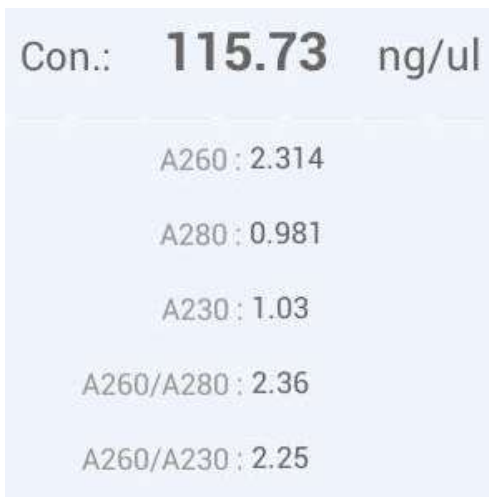

Fig 4.5 The detection result data
3) The detection result data will display as Fig4.5.
- ① **Ex. Picture** : Export the current interface to the mobile hard disk.
- ② **Measure** : Click it to measure the sample.
- ③ **Print** : Click it to print the data as Fig 4.5 with the equipped printer.
- ④ **Spectrum Data** : Click it to save the full wavelength detection data, if not, only the data of Fig 4.5 will be saved.
- ① **Print** :Click it to print the data as Fig 4.5 with the equipped printer.